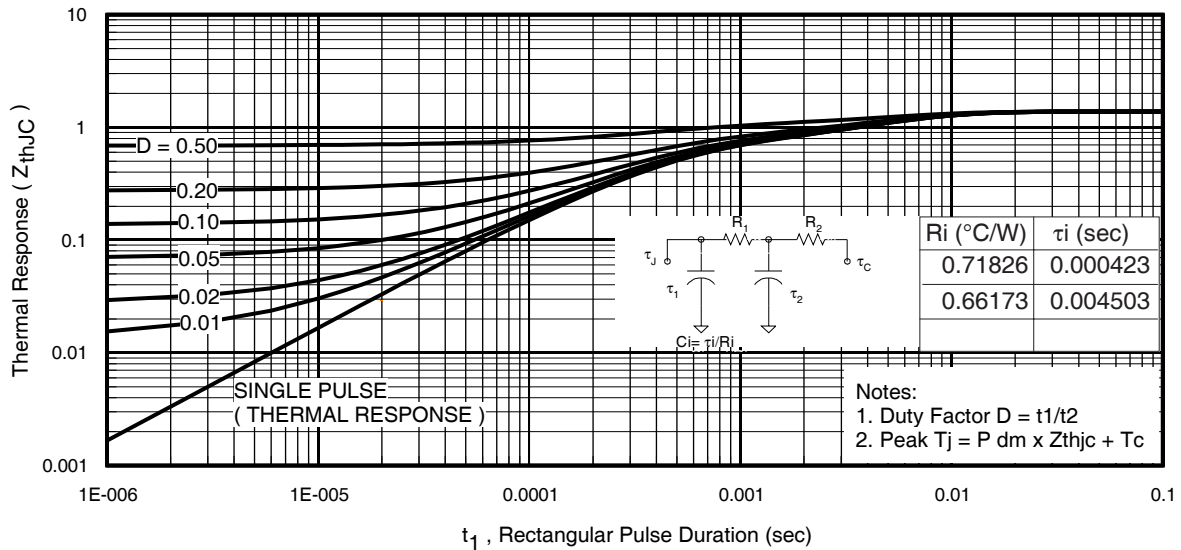

Fig 11. Maximum Effective Transient Thermal Impedance, Junction-to-Case
$Z_{thJC}(D, t_{av})$ = Transient thermal resistance, see figure 11)
- ① Repetitive rating; pulse width limited by max. junction temperature. (See fig. 11).
- ② Limited by T_{Jmax} ; starting $T_J = 25^\circ C$, $L = 0.21mH$, $R_G = 25\Omega$, $I_{AS} = 30A$, $V_{GS} = 10V$. Part not recommended for use above this value.
- ③ Pulse width $\leq 1.0ms$; duty cycle $\leq 2\%$.
- ④ C_{OSS} eff. is a fixed capacitance that gives the same charging time as C_{OSS} while V_{DS} is rising from 0 to 80% V_{DSS} .